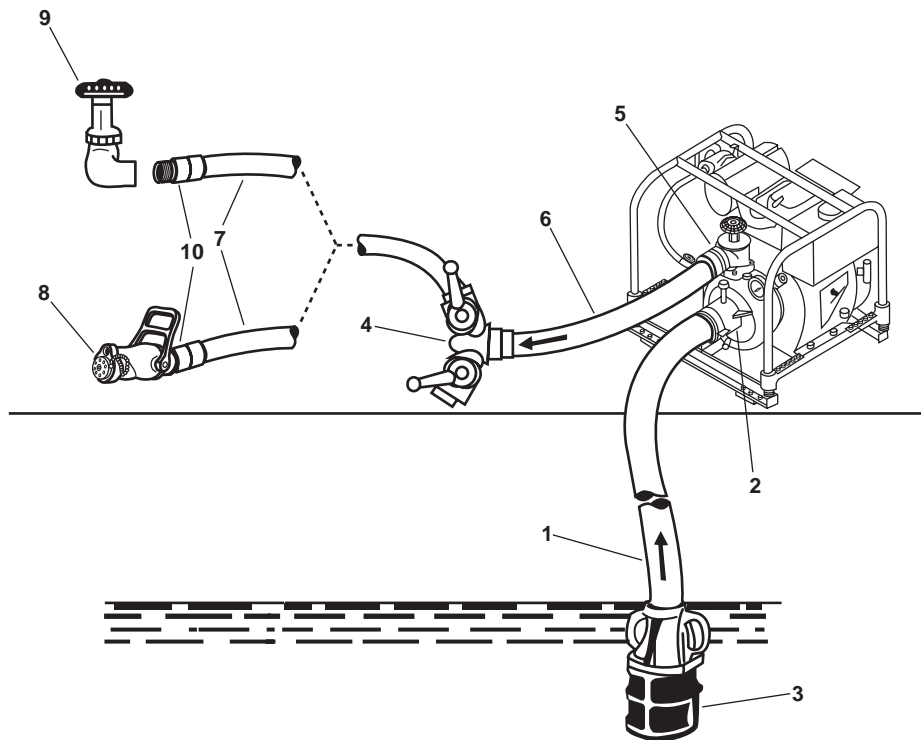

Figure 5. P-100 Portable Pump
1. Attach a 3 inch suction line (figure 5, item 1) to pump suction fitting (figure 5, item 2).
2. Lower the suction hose section into the water making sure that the foot valve/strainer unit (figure 5, item 3) remains submerged at least 1 foot throughout the operating period.
3. Attach a wye-gate (figure 5, item 4) to the pump discharge (figure 5, item 5) fitting by using a short 2½ inch diameter extension hose (figure 5, item 6).
4. Attach one or two 1½ inch fire hoses (figure 5, item 7) with nozzles (figure 5, item 8) to the wye-gate (figure 5, item 4).
1. Attach a 3 inch suction line (figure 5, item 1) to the pump suction fitting (figure 5, item 2).
4. Attach a 1½ inch fire hose (figure 5, item 7) to the wye-gate (figure 5, item 4).
5. Attach the 1½ inch fire hose (figure 5, item 7) to the fire station cutout valve (figure 5, item 9) by using a 1½ inch male to female adapter (figure 5, item 10).